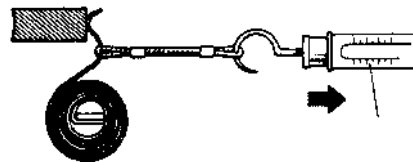

Figure 6.2-7
(1) Check the brush for movement conditions inside the brush support. If the movement of brush is not flexible, check the brush support for deformation or surface contamination, and repair or replace it according to the specific conditions.
(2) Check the conductivity between the brush support positive pole (insulation end) and negative pole (grounded end). If it is conducting, the brush support must be replaced.
(3) Check the brush spring for wearing or damage. As shown in Figure 6.2-7, replace it in case of abnormality.